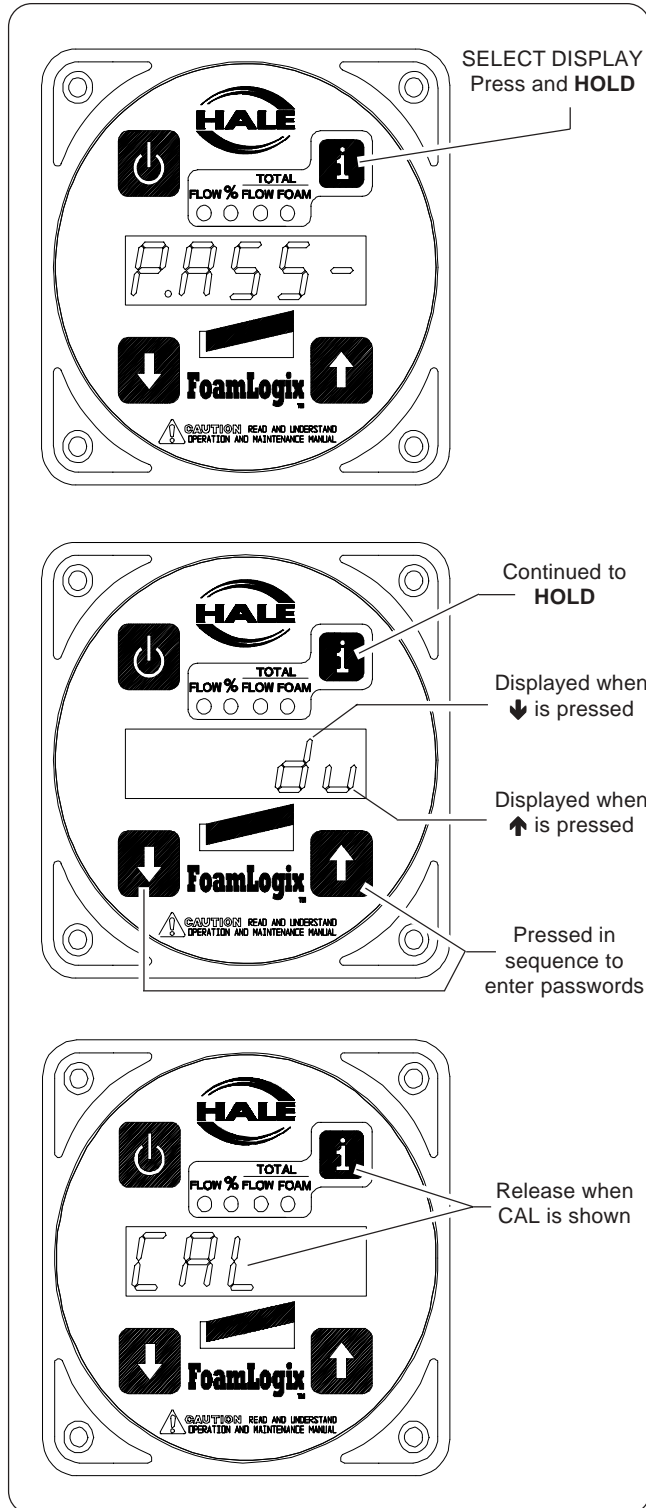

Figure 26: Display - Password and Calibration Modes
Also see Figure 26: “Display - Entering Password and Calibration Modes” on page 52.
3. The display shows **CALL** for several seconds, followed by **L** (or **O** when display is set to metric). (See Figure 26: “Display - Entering Password and Calibration Modes” on page 52.)